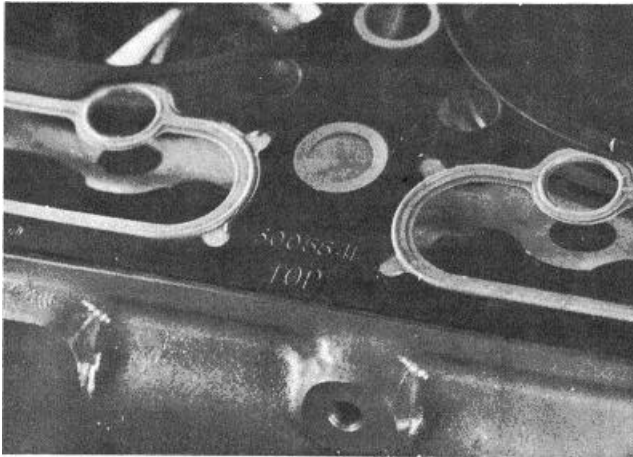

Fig. 14-24 (N114257). Install The Cylinder Head Gasket.
2. Install the new gasket onto the dowel pins in the cylinder block. Make sure the side of the gasket with the word "Top" is up, Fig. 14-24.